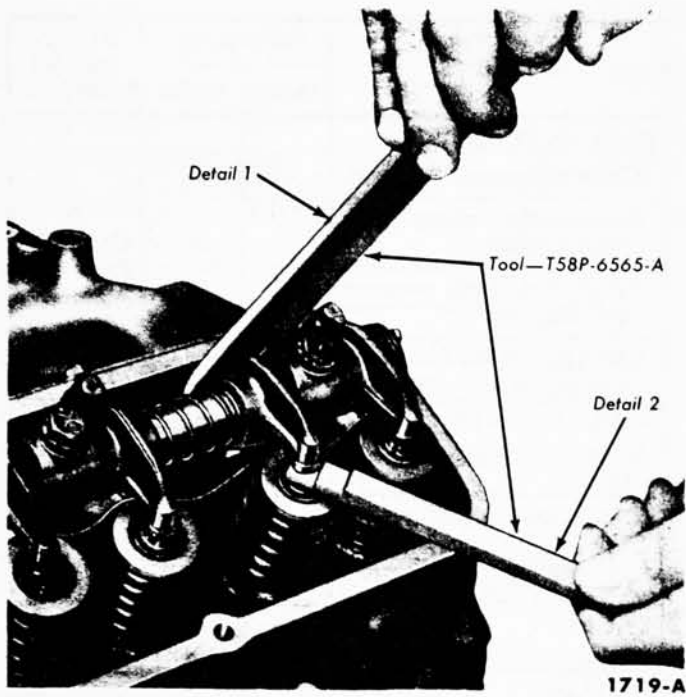

FIG. 13—Valve Clearance
1. Position the hydraulic lifter compressor tool on the rocker arm and slowly apply pressure to bleed down the hydraulic lifter until the plunger is completely bottomed (Fig. 13). Hold the lifter in the fully collapsed position and insert the clearance gauge (Fig. 13) between the valve
Upon replacement of a valve push rod and/or valve rocker arm shaft assembly, the engine should not be cranked or rotated until the hydraulic lifters have had an opportunity to leak down to their normal operating position. The leak down rate can be accelerated by using the tool shown in Fig. 13 on the valve rocker arm applying pressure in a direction to collapse the lifter.